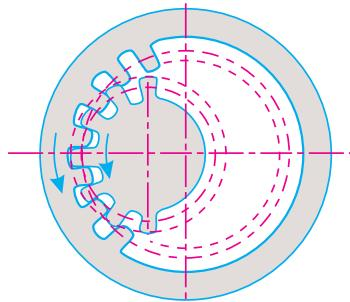

Fig. 34.4. Internal gearing.
**2. Internal gears.** Sometimes, the gear of the two shafts mesh *internally* with each other as shown in Fig. 34.4.
In an internal gearing, the motion of the two wheels is always like as shown in Fig. 34.4.